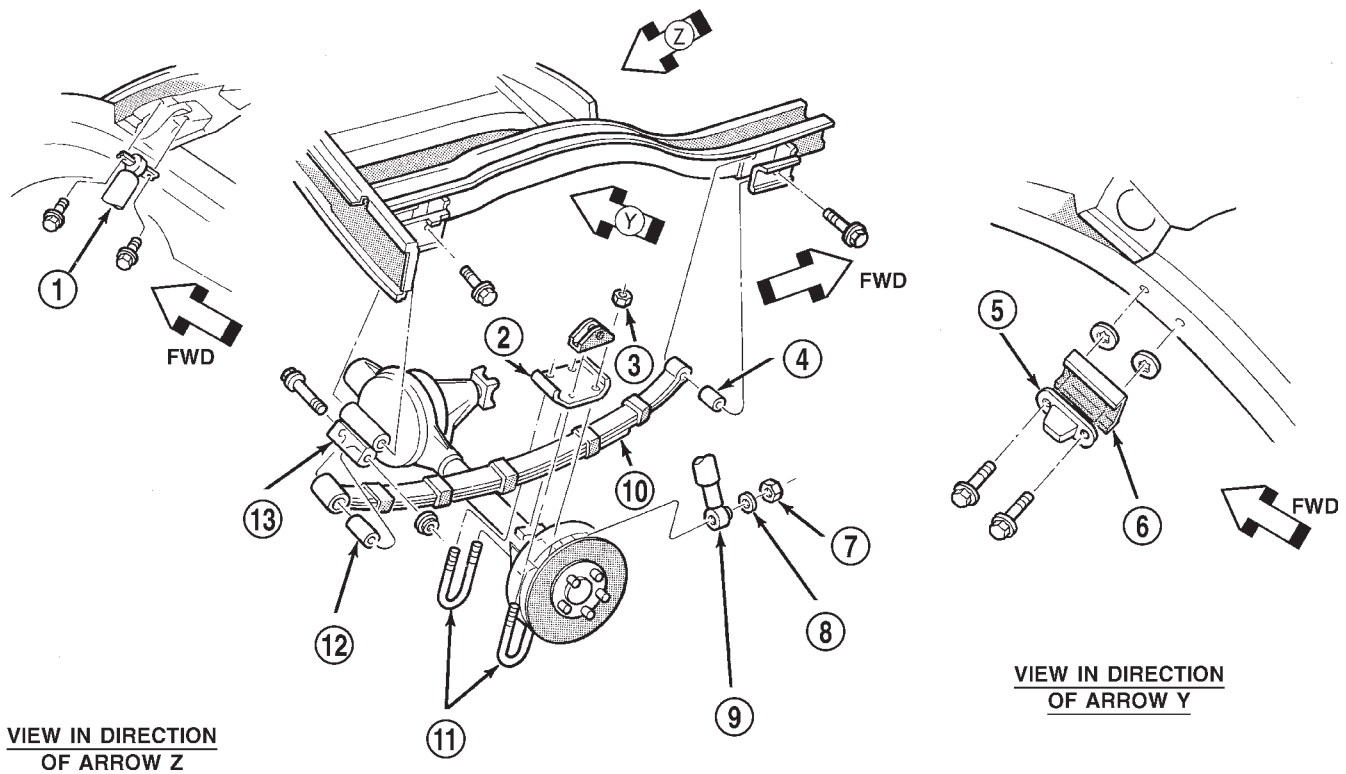

Fig. 1 Rear Suspension Components
- (1) Remove the shock absorber upper bolts from the body bracket (Fig. 1).
- (2) Remove lower attaching nut and washer from the bracket stud. Remove the shock absorber.